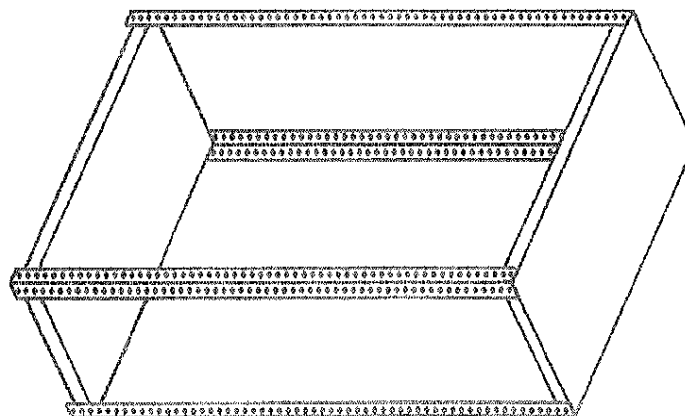

Figure 3
STEP 4: Take one (1) shelf and move toward the other end of the partially assembled unit. Place the shelf on it's side with the flat surface facing up, and place it in-between the four post (see figure 3). Again align the holes from the post to the shelf and insert the 1/4 - 20 x 1/2" bolts through all the post holes. Apply the nuts to the bolts and tighten with a 7/16" nut driver, socket, or adjustable wrench (see figure A).